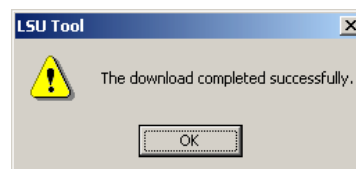

Figure 131: Successful Firmware Upgrade
3. If the upgrade is successful, the following window appears (Figure 131).